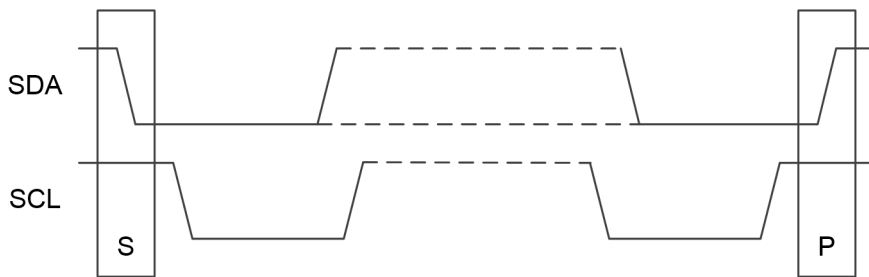

Figure 1.4. Start (S) and Stop (P) bits.
Data transmission begins with a start bit (S) and ends with a stop bit (P) (Figure 1.4). The Master sends a start bit (S) by changing the state of the SDA line from high to low while the SCL line is high. The stop bit (P) signals a change of the SDA line level from low to high while the SCL line is high. During data transmission it is possible to send several start bits. This allows the Master device to address several Slave devices (or change the direction of the transmission) without releasing the bus. The start bit not preceded by stop bit is called the repeat start bit (Sr).